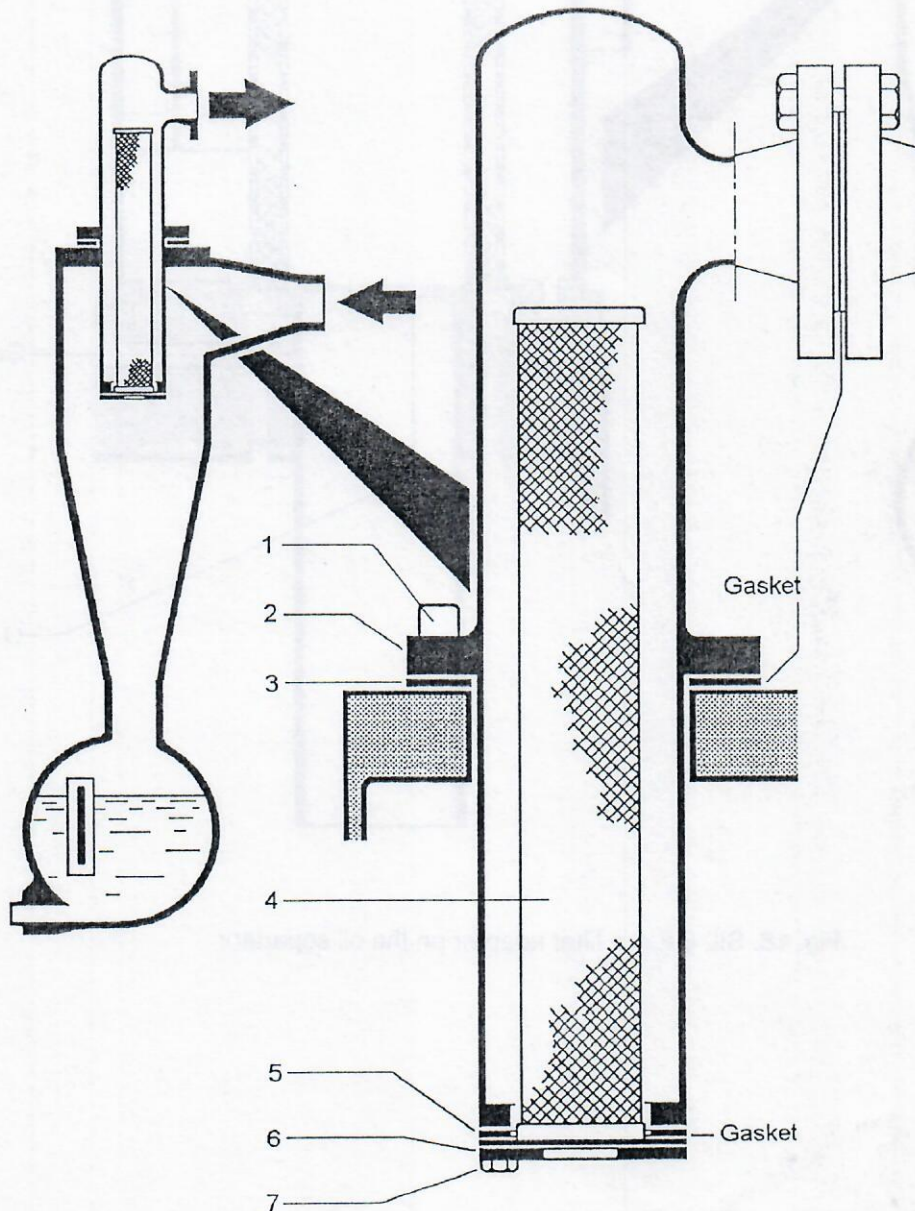

Fig. 17. SIL 6 Oil separator filter, NH3
47. For compressors using NH3 the filter SIL6 – see Fig. 17 – in the outlet casing should be replaced if the pressure drop across this filter exceeds 100 kPa (1.0 bar).